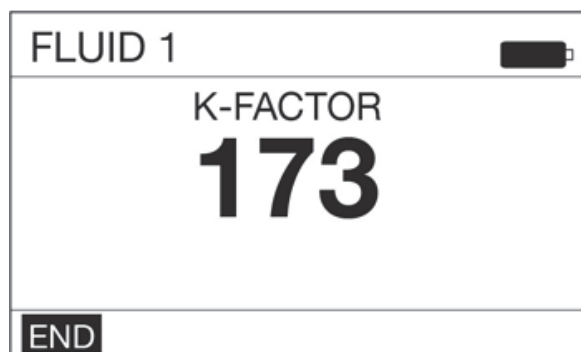

FIG. 61
6. When **exactly** one quart or one liter of fluid is dispensed into the flask use the center ENTER button on the keypad to select END. A screen displaying the quantity of fluid dispensed displays (FIG. 61 shows an example of the dispensed volume screen).